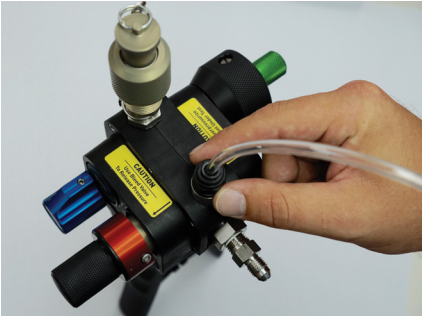

Fig. 5-2 Attaching the cleaning tube to the reservoir inlet
- 1) Connect the optional King Nutronics Cleaning Tube, PN 3731-52-1, to the Reservoir Inlet Port as shown above in Fig. 5-2. The plastic fitting should only be finger-tight. Over-tightening or using a wrench will damage the fitting.